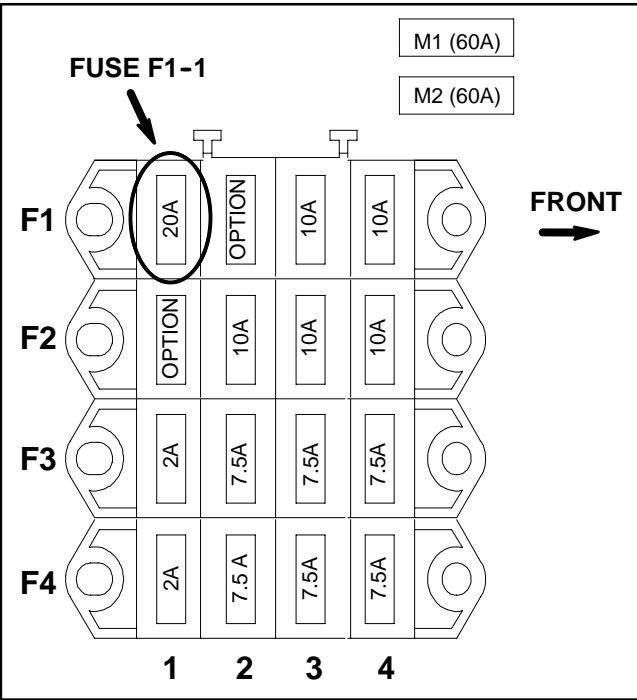

Figure 49
2. Remove fuse F1-1 (20A) (Fig. 49) from fuse block to prevent the engine from cranking.
6. Collect fuel in the graduated cylinder by turning ignition switch to the ON position. Allow pump to run for fifteen (15) seconds, then turn switch to OFF.
7. The amount of fuel collected in the graduated cylinder should be approximately 16 fl oz (475 ml) after fifteen (15) seconds.